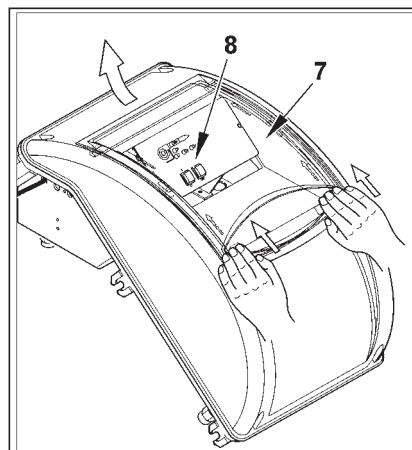

Figure 4
- 4) To close the electrical panel cover, tighten the 4 screws (1) with a torque of about 5 Nm to ensure the correct seal. At this point, to access the control panel (8), unfasten the transparent door (7), pressing gently in the direction of the arrows shown in figure 4, slide it a short distance to separate it from the cover.
- 5) To secure the transparent door on the panel properly, proceed as indicated in 5: position the hooks at their hooking points and (9) slide the door in the direction indicated by the arrow until it clicks. It is now well sealed.